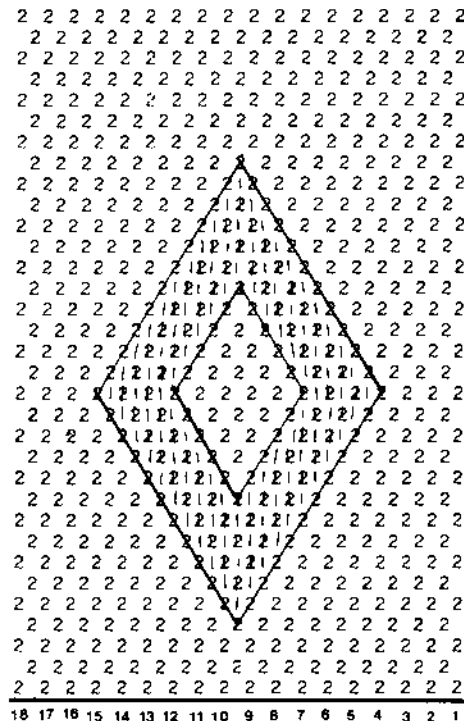

FIGURE 8
**Weaving:** Start and end the scarf with two rows of plain weave. Follow the pattern on the grid (Fig. 8). The lozenge can be repeated as many times as desired.